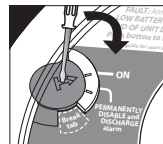

Figure 11.2-B
- Locate the red wheel on the back of the device. Turn the red wheel to the "ON" position on the device using a standard screwdriver. (Figure 11.2-B)